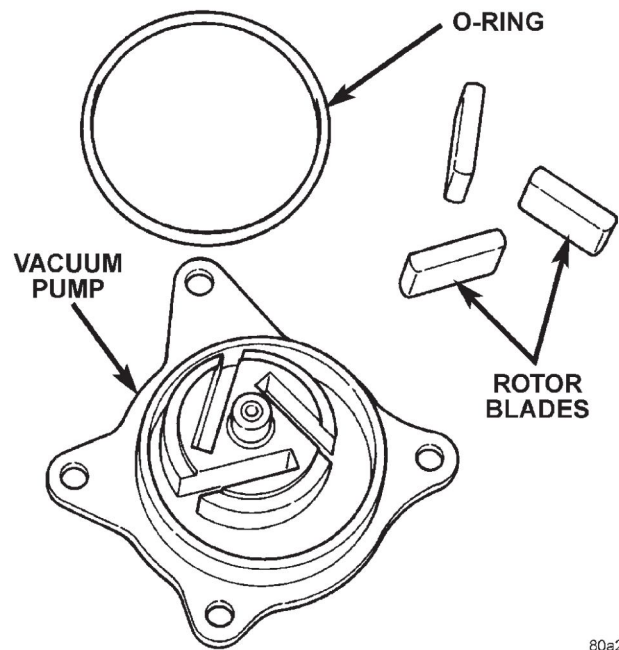

Fig. 72 Vacuum Pump Assembly
- (1) Install vacuum pump with new O-ring (Fig. 72).